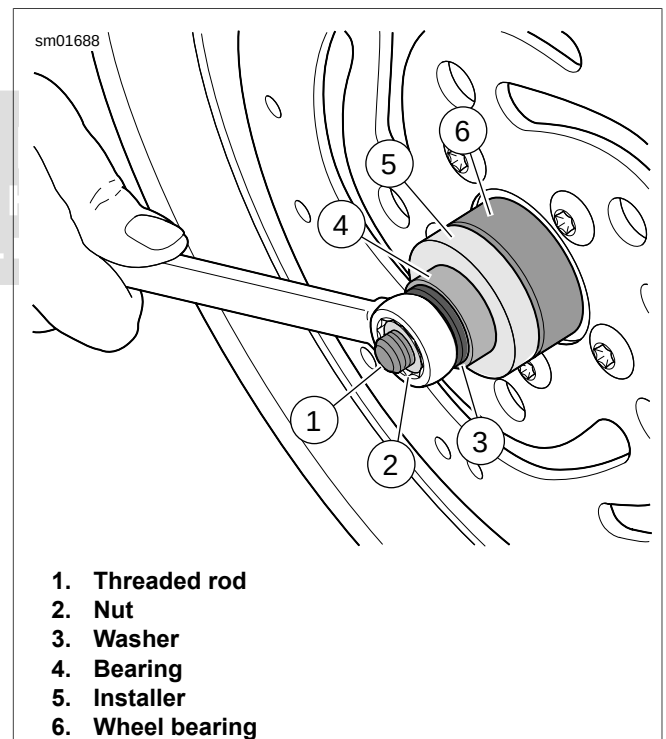

Figure 2-25. Installing Bearing
- c. See Figure 2-25. Place **new** bearing on rod (1) with lettered side facing out.
- d. Assemble installer (5), bearing (4), washer (3) and nut (2) over rod.